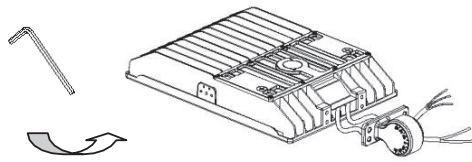

figure 2
2. Run leads from luminaire through knuckle and attach knuckle to head. (see fig 2)